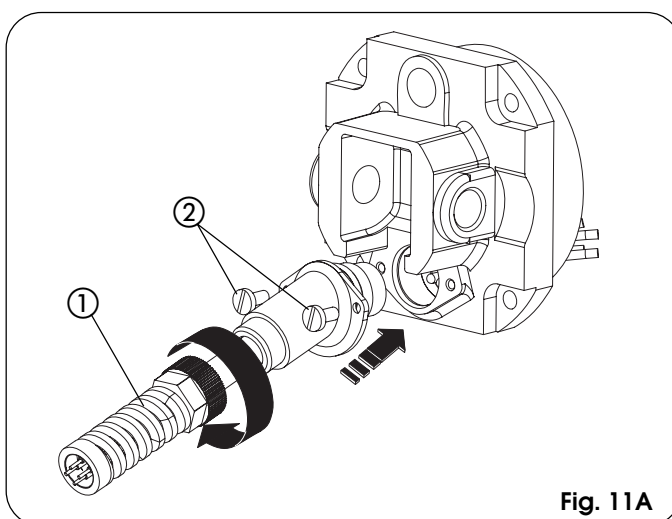

Fig. 11A
- A) Insert the two anti-vibration spacers ② onto the front flange.
- B) Introduce the housing, pressing it firmly on the rear cover ①.
- C) Secure the housing with the self-tapping screw ③.
- D) Fit the front cover ⑤ on the housing and fasten it with FIX plug ④.
- 12) Fit the electric cable bend guard (ref.①, Fig. 11A).
- Connect the power cable of the operator (Fig.11A).
- Fasten the screws (ref. ②, Fig. 11A).